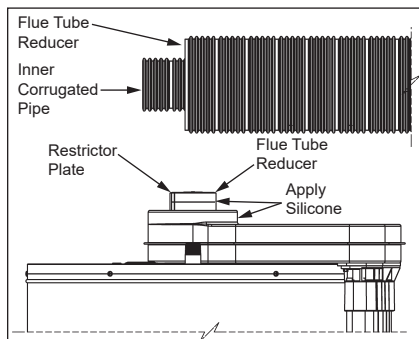

Figure 11 - Uncompressing the Corrugated Tubing
- Pull the inner corrugated tube towards the water heater and leave some length over the water heater's center for bending (see Figure 11).